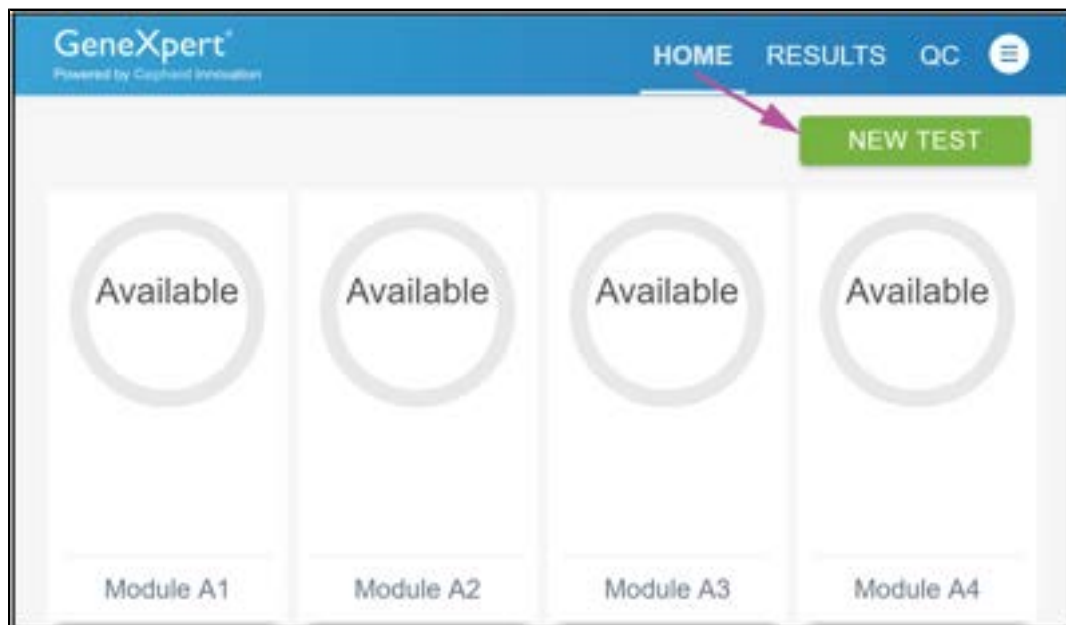

Figure 1. The Home Screen
2. Touch the **NEW TEST** button on the Home screen (see Figure 1).